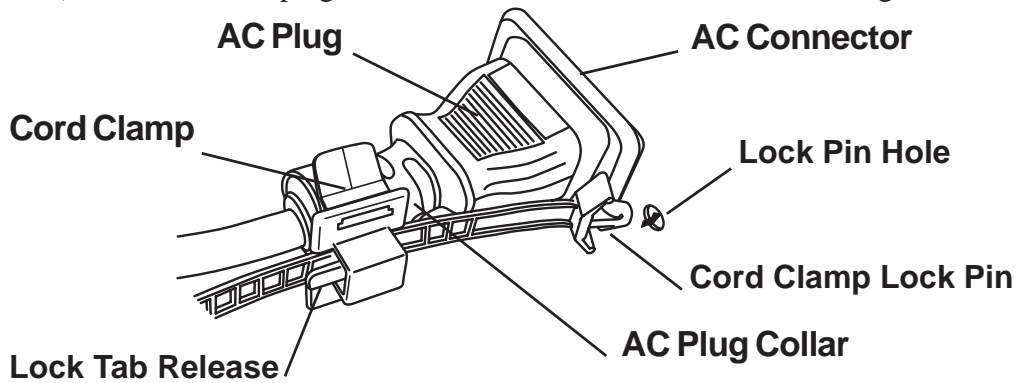

Figure 2
2) Connect the AC plug to the FP unit's AC connector, as shown in fig. 2.